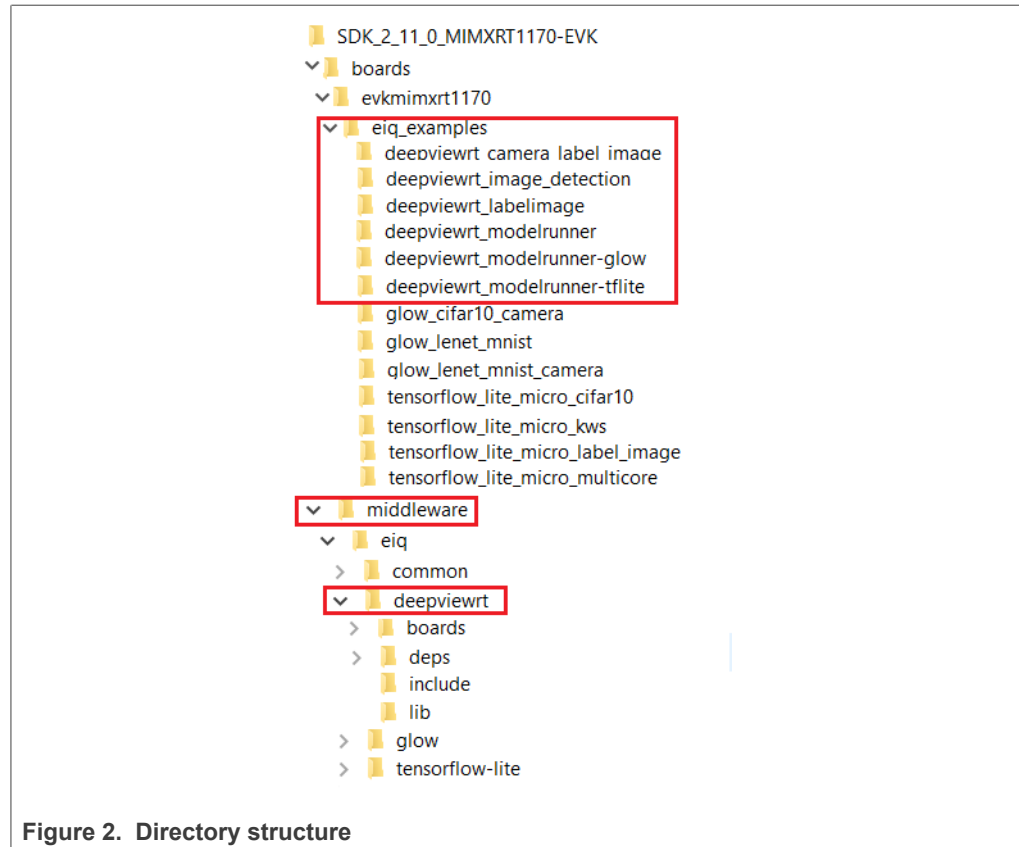

Figure 2. Directory structure
6. Once the MCUXpresso SDK package is downloaded, extract it in a folder on your local machine. Alternatively, import the package into the MCUXpresso IDE. For more information on the MCUXpresso SDK folder structure, see the Getting Started with MCUXpresso SDK User's Guide (document: MCUXSDKGSUG). Figure 2 shows the package directory structure. The eIQ deepviewRT sample directories are highlighted in red.